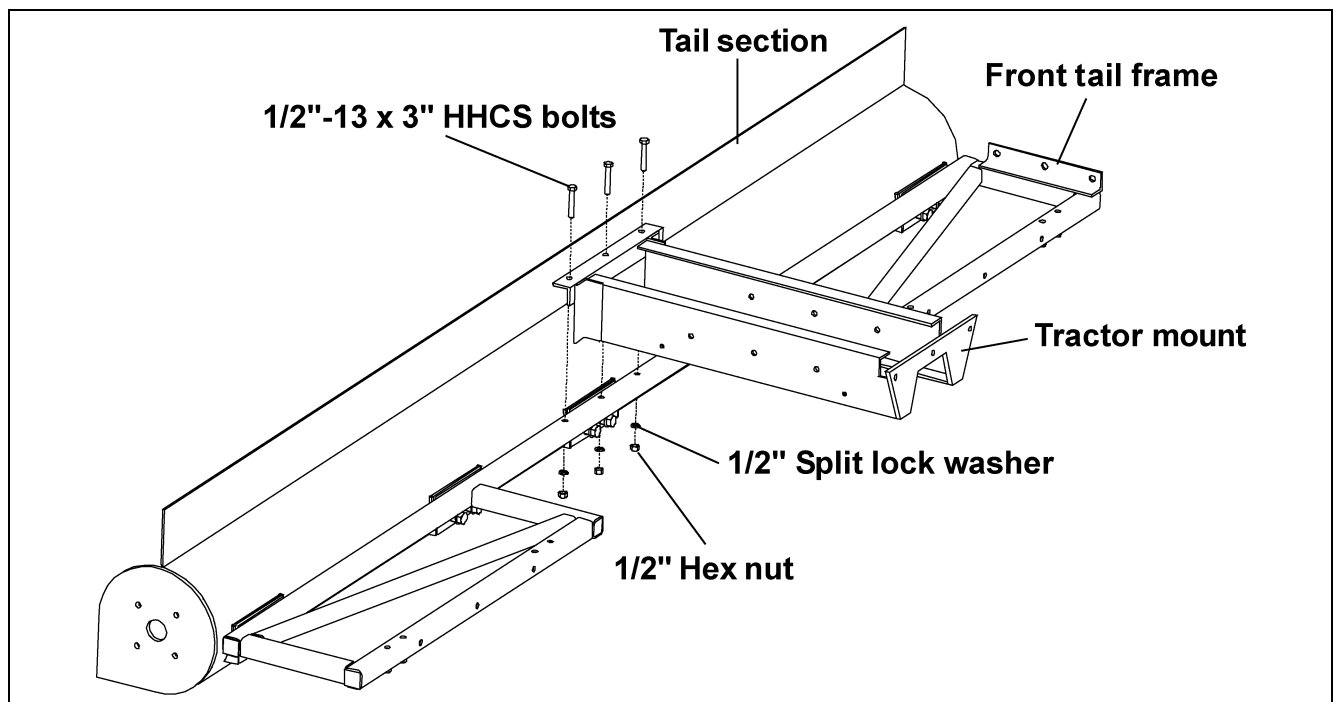

Figure 5D
3. Fasten tractor mount to front tail frame using three (3) 1/2"-13 x 3" HHCS bolts, split lock washers and hex nuts. (See Figure 5D.)